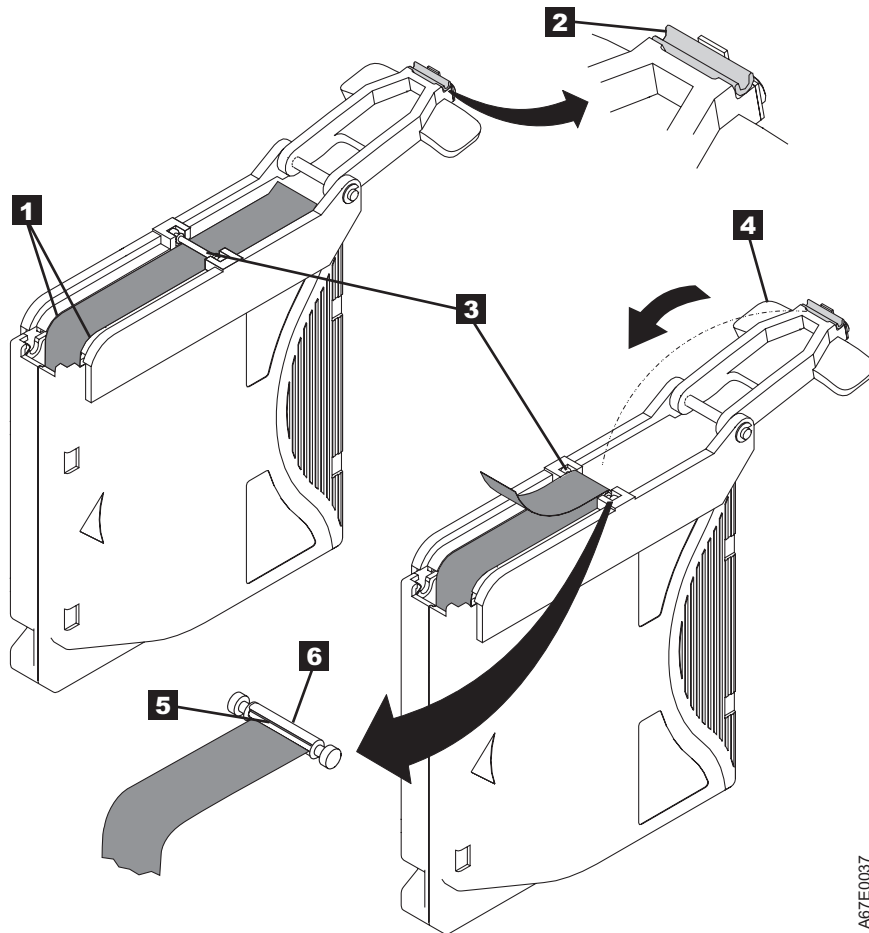

Figure 8-15. Attaching the leader pin to the tape
7. Position the tape in the alignment groove of the leader pin attach tool (1 in Figure 8-15 on page 8-16).
8. Place a new C-clip into the retention groove (2 in Figure 8-15 on page 8-16) on the leader pin attachment tool and make sure that the clip's open side faces up.
9. Place the leader pin into the cavity (3 in Figure 8-15 on page 8-16) of the leader pin attach tool.
10. Fold the tape over the leader pin and hold it with your fingers (see Figure 8-15 on page 8-16).
11. Close the pivot arm (**4** in Figure 8-15) of the leader pin attach tool by swinging it over the leader pin so that the C-clip snaps onto the pin and the tape.
12. Swing the pivot arm open and trim the excess tape (**5** in Figure 8-15) so that it is flush with the reattached leader pin (**6** in Figure 8-15).
13. Use your fingers to remove the leader pin from the cavity (**3** in Figure 8-15) in the leader pin attach tool.